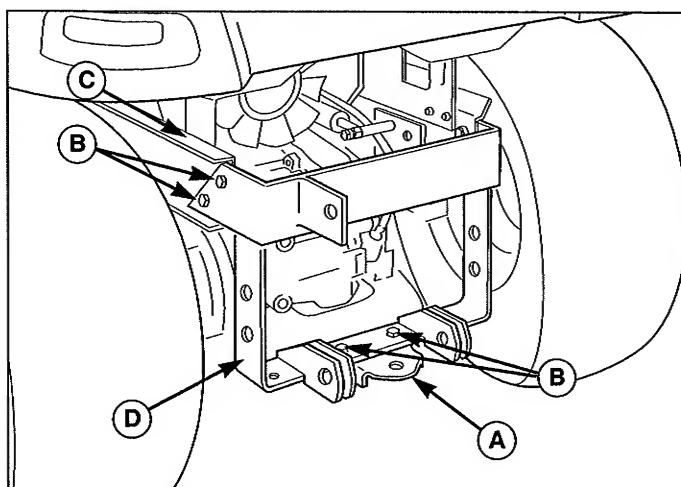

Figure 4. Install Hitch
2. Rest the hitch (D, Figure 4) on the drawbar (A).
3. Attach the hitch (D) to the tractor drawbar (A) and channel frame (C) using six 1/2"-13 x 1-1/4" cap-screws, lockwashers, and nuts (B) as shown in Figure 4.